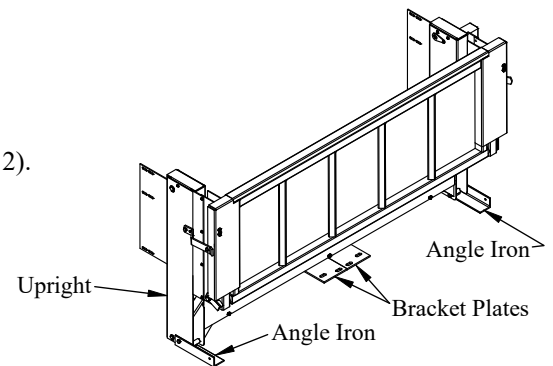

Figure 2: Complete liftgate (**G²** shown).
4. Unbolt the two (2) angle irons attached to the liftgate uprights- **G²** only (Figure 2).
6. Remove the two (2) bracket plates attached to the liftgate- **G²** only (Figure 2).